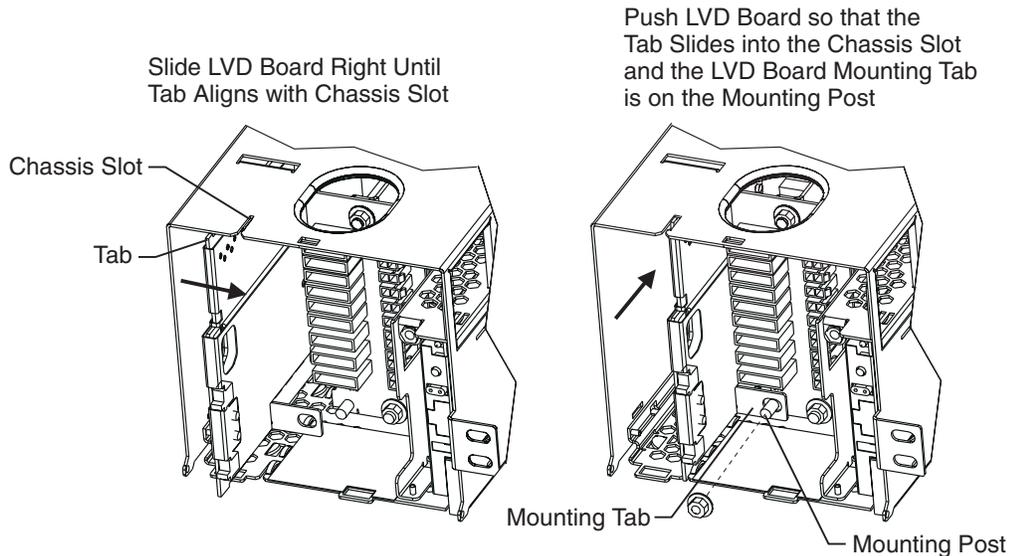

Figure 5-21: LVD Board Installation (continued)
2. Slide the card all the way to the right until the top-front tab lines up with the chassis slot and the mounting-tab on the card lines up with the mounting post on the Aux Box (Figure 5-21).